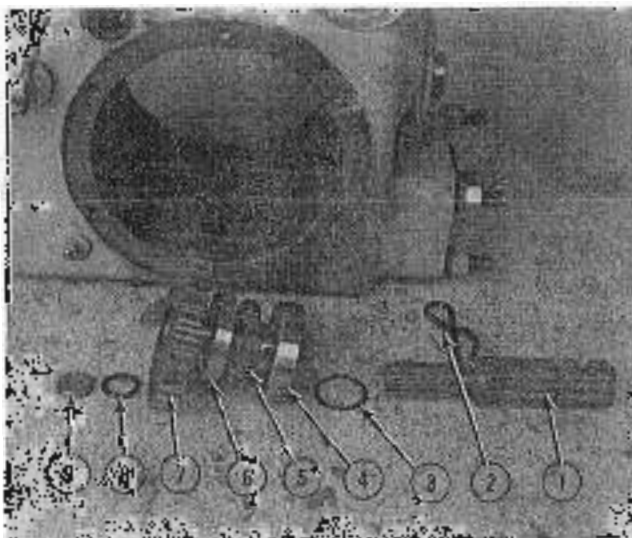

FIG. 9
Fig. 9 identifies parts associated with the SAE 1-3/8" 6-spline PTO shaft.
- (1, Fig. 9) SAE PTO Shaft
- (2, Fig. 9) Retaining Clip
- (3, Fig. 9) Snap Ring
- (4, Fig. 9) Rear Bearing
- (5, Fig. 9) Oil Seal
- (6, Fig. 9) Front Bearing
- (7, Fig. 9) Shaft & Gear Assembly
- (8, Fig. 9) "D" Ring
- (9, Fig. 9) Plug
The spur gear and shaft assembly (6, Fig. 9) can be removed by unclipping the snap ring (3, Fig. 9) from the shaft extending out the rear of the case. Tap the shaft from the rear into the case using a soft brass bar.